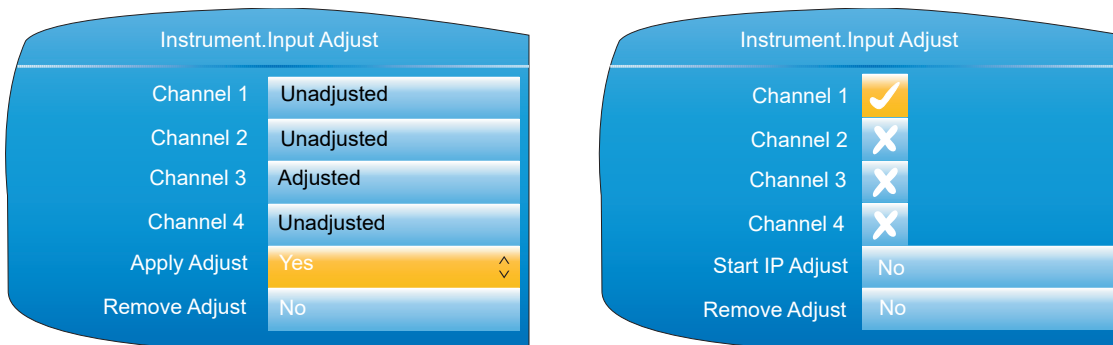

Figure 74 Channel adjustment procedure (1)
- As shown in Figure 74, highlight the 'Apply Adjust' field, and operate the scroll key to enter edit mode. Use the up or down arrow key to select 'Yes'. Use the scroll button to change Channel 1 'cross' to a 'tick' (check mark). Similarly select any other channels which require adjustment.